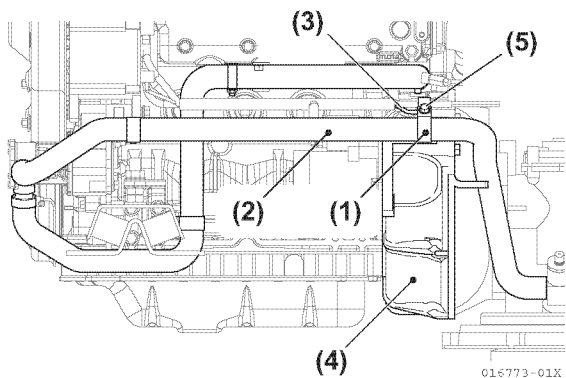

Figure 5-178
- For 4JH4AE flywheel housing side seawater pipe, fasten the retainer together with the ground terminal to the flywheel housing by the ground bolt for sail drive and ZF30M (Figure 5-178).